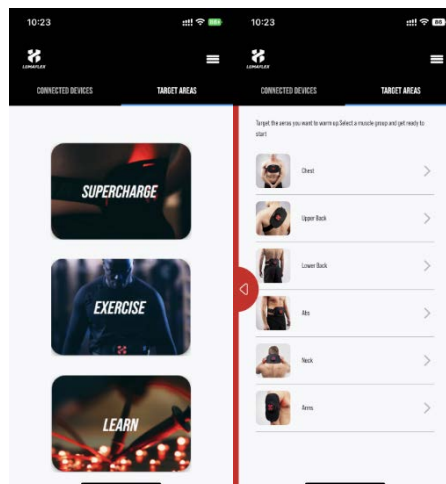

Figure 4.6-4
to mode selection, see figure 4.6-4.
*Note: Before connecting device, you can click "TARGET AREAS" to see how to wear the device. See figure 4.6-4.*